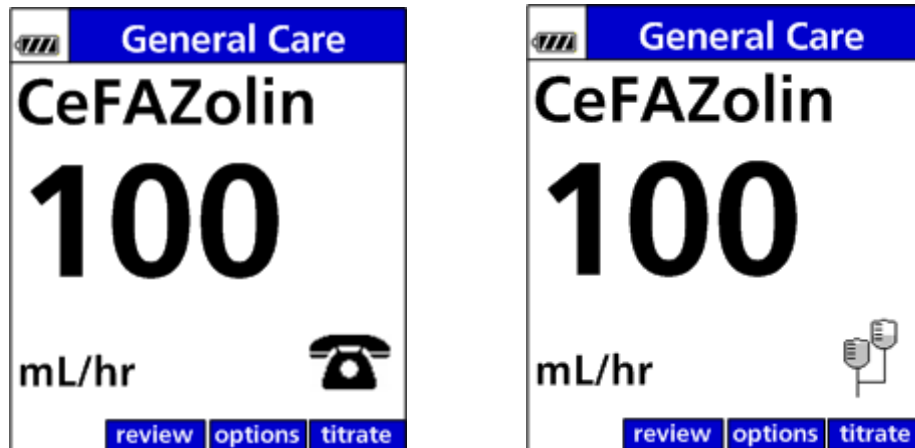

Figure 49. Alternating Run Screens with Secondary Callback Enabled.
- If YES is pressed, a “callback” icon will be displayed on the RUN screen, alternating with the VTBI (bag) icon, during the secondary infusion to indicate that the callback feature is active. (See Figure 49.)